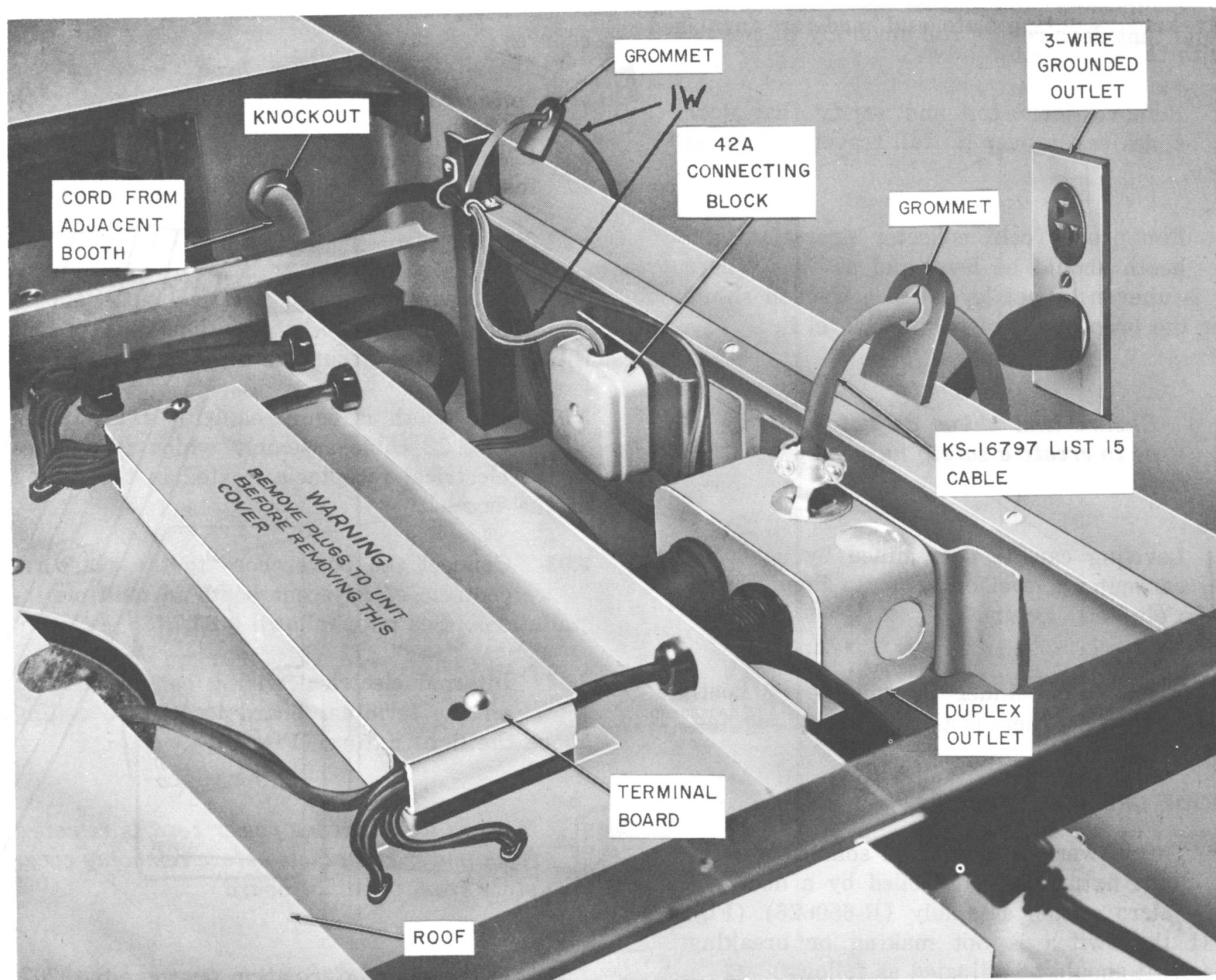

Fig. 2 — Partial View of Ceiling Area
5.03 To make wiring accessible remove dome assembly and work from inside of booth or remove the roof retaining screws and slide roof forward as shown in Fig. 2.
5.04 Insert station wire through roof grommet, through the cable clamp, and terminate on the 42A connecting block (Fig. 2) or 123A protector.
7.04 Internal electrical wiring can be checked on the terminal board located on ceiling above the light fixture (Fig. 2).